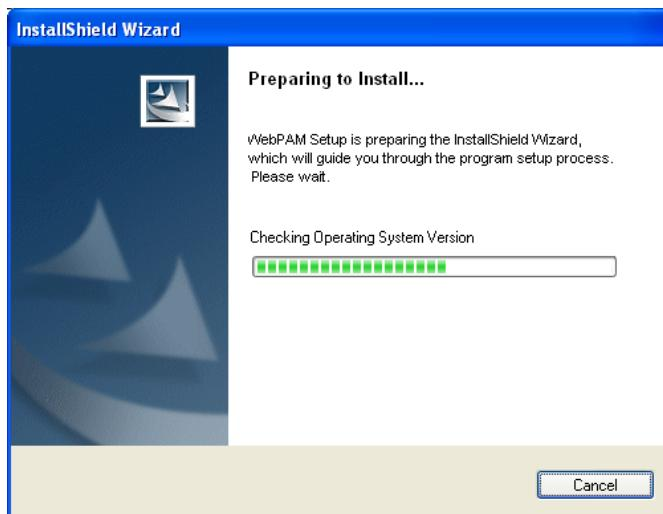

Figure 7-30: SATA RAID Setup Program Icon
Step 8: The RAID Utility installation procedure is initiated as shown in **Figure 7-30**.